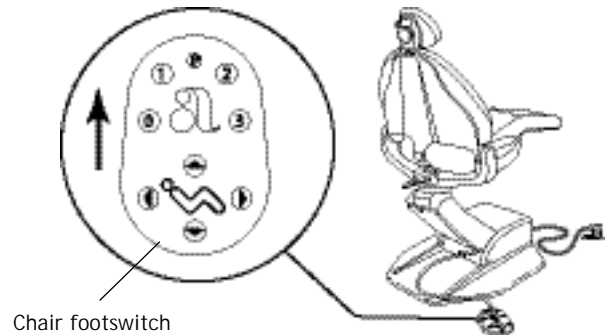
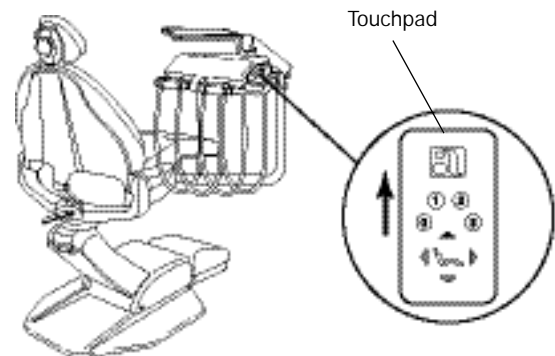

Figure 1
Figure 2
- Raise the chair base completely up using the footswitch (see Figure 1) or the touchpad on the control head (see Figure 2).